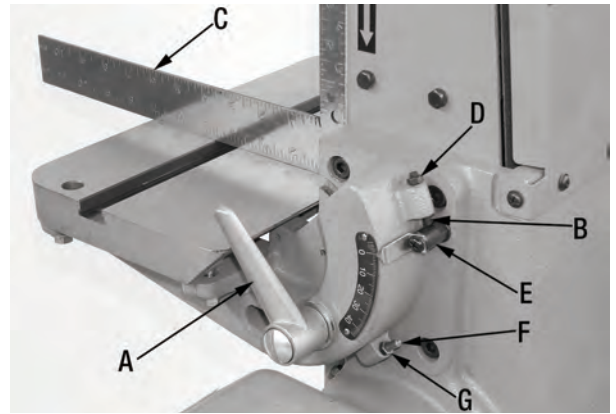

Figure 13
1. Loosen spring loaded handle (A) Fig.13 and raise the sanding belt table until the table is stopped by the 90° bevel stop screw (B). Retighten spring loaded handle.
2. Place a square (C) on the sanding belt table and up against the sanding belt. Make sure the sanding belt table is set perfectly at a 90° angle.
3. If the sanding belt table is not set at a perfect 90° angle, an adjustment can be made. Loosen spring loaded handle (A), and adjust table to a perfect 90° angle.
4. Loosen 90° bevel stop hex. nut (D) and adjust the set screw (B) in or out until it rests against the stop shaft (E). Retighten hex. nut (D).
5. To verify and adjust the 45° bevel stop, lower the table as far as possible until the table is stopped by the 45° bevel stop screw (F). Use a combination square instead to verify the table angle. If an adjustment is needed, loosen 45° bevel stop hex. nut (G) and adjust the set screw (F) in or out until it rests against the stop shaft (E). Retighten hex. nut (G).